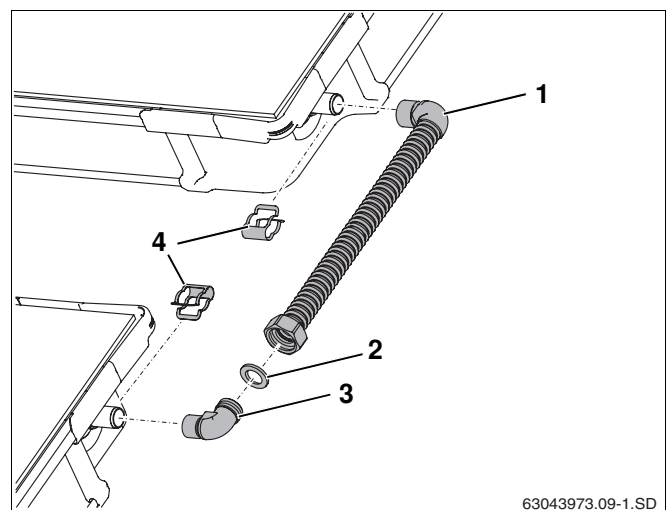

Fig. 39 Connection set between two collector rows
- Insert gasket (Fig. 39, **Item 2**).
- Insert pipe bend (Fig. 39, **Item 3**) into union nut, align and screw tight.
- Push connection pipe (Fig. 39, **Item 1**) onto the collector connections and fix in place using brackets (Fig. 39, **Item 4**) from the connection kit.